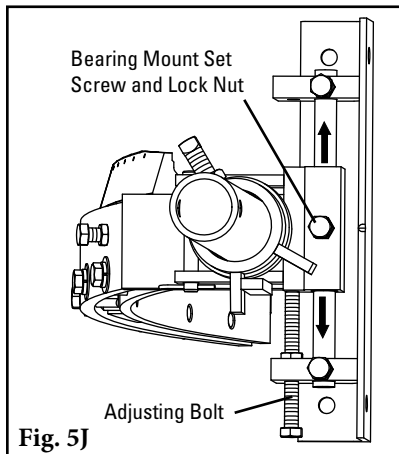

Fig. 5J
- Loosen bearing mount set screws and lock nuts. Adjustments will be made by turning adjusting bolts either up or down (Fig. 5J).